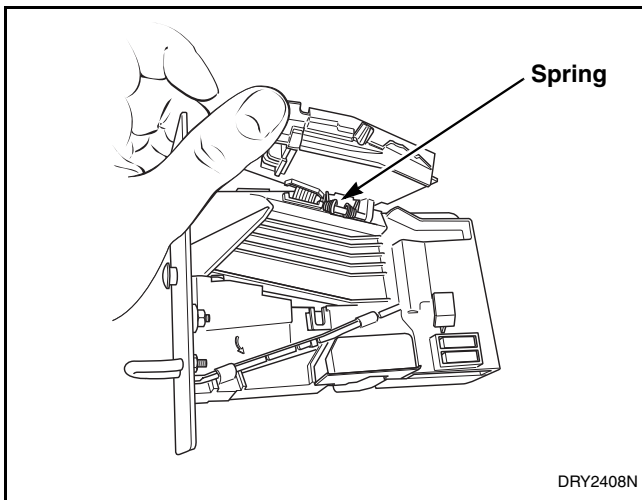

Figure 26
- (3) Open cover of coin drop. Refer to *Figure 26*.